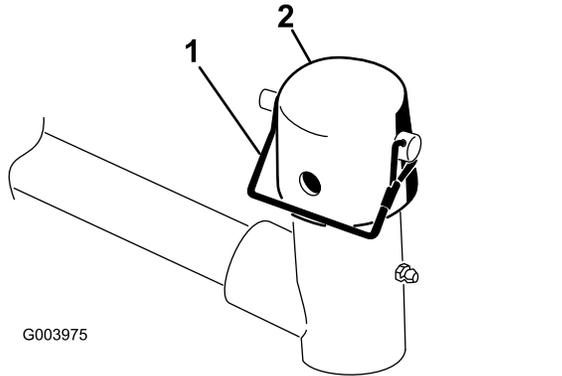

**Figure 9**
**Important:** On cutting unit 4 (left front) and cutting unit 5 (right front), use the rod-bracket mounting nuts to install the hose guides to the front of the cutting-unit tabs (Figure 7 and Figure 8). The hose guides should lean toward the center cutting unit (Figure 8 and Figure 9).